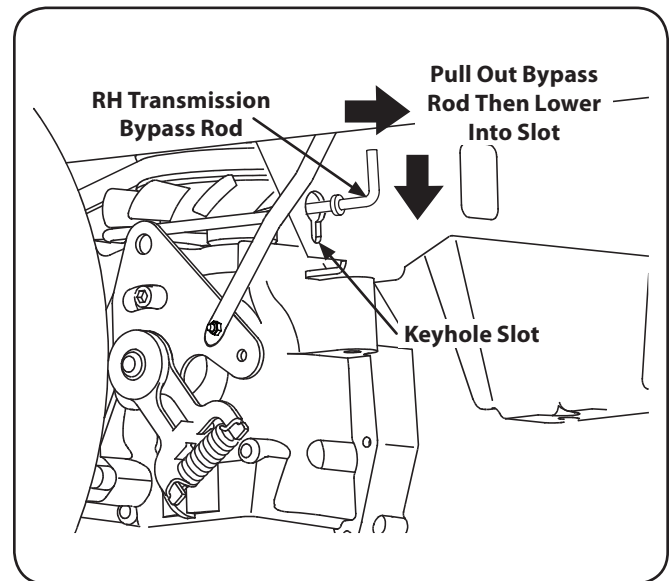

Figure 6-2
1. From just in front of the two rear tires, locate the transmission bypass rods. Refer to Fig. 6-2.